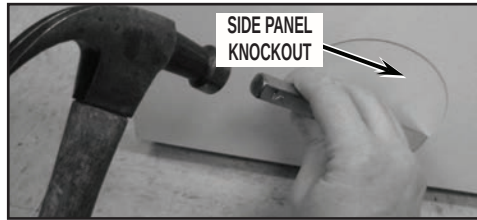

FIGURE 20
2. To remove the most rearward left side knockout, use either a 1/8" drill bit and drill or a cold chisel and hammer. Remove the six(6) knockout retaining tabs around the edge. See *Figure 20*.